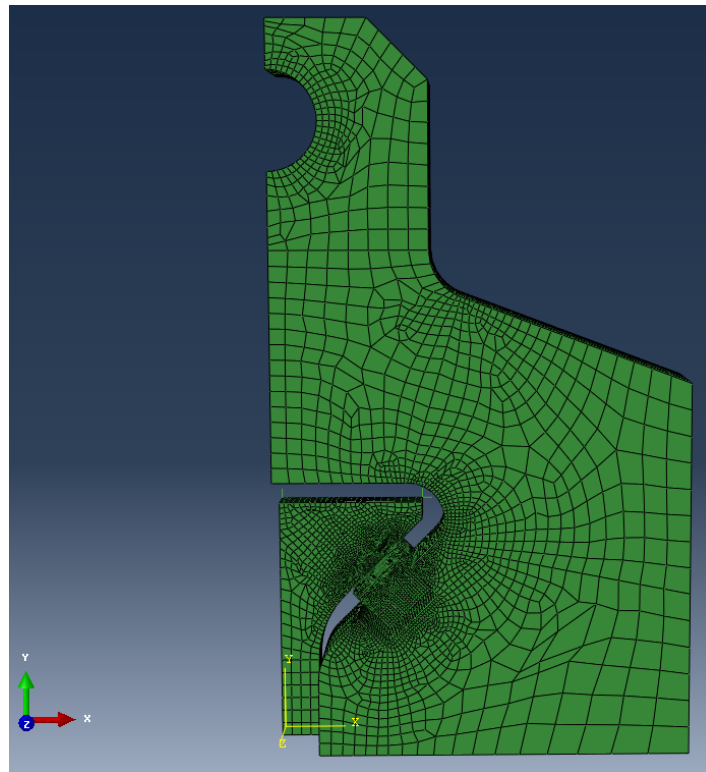
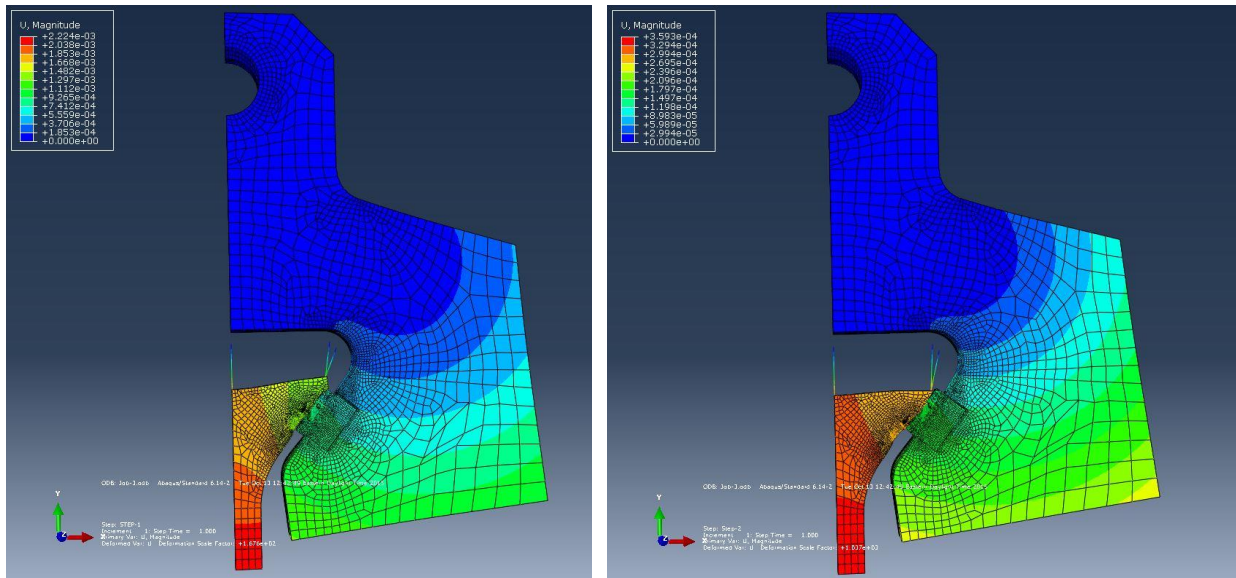

Figure 7.2a ABAQUS model of fretting test rig.
Figure 7.3a Fretting test rig deformed shape for load step #1 (left) and #2 (right).
The ABAQUS model is shown in Fig 7.2a. Using symmetry, only one quarter of the actual model is required. There are two load steps applied; the deformed shapes for both steps are shown in Fig 7.3a. The specimen is pulled downward and then partially unloaded; the load ratio (R) is 0.1. There is contact between the specimen and the fretting pad; the coefficient of friction is 0.3.